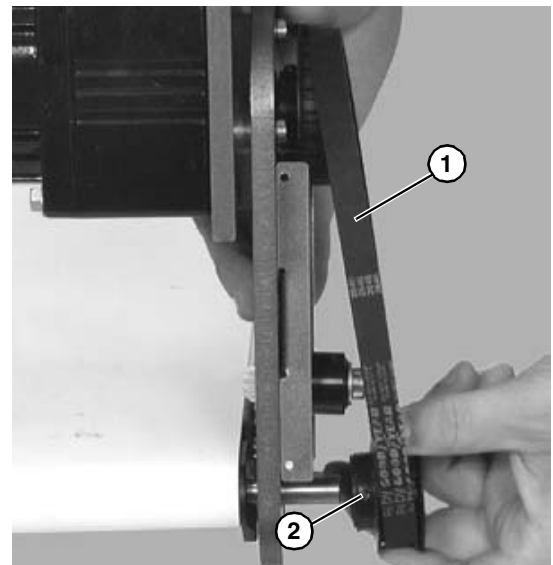

Figure 18
3. Remove timing belt (**Figure 18, item 1**).
<p>If timing belt does not slide over pulley flange, loosen two driven pulley set screws (Figure 18, item 2) and remove pulley with belt ((Figure 18, item 1)). For re-installation, see steps 6 and 7 on page 10.</p>